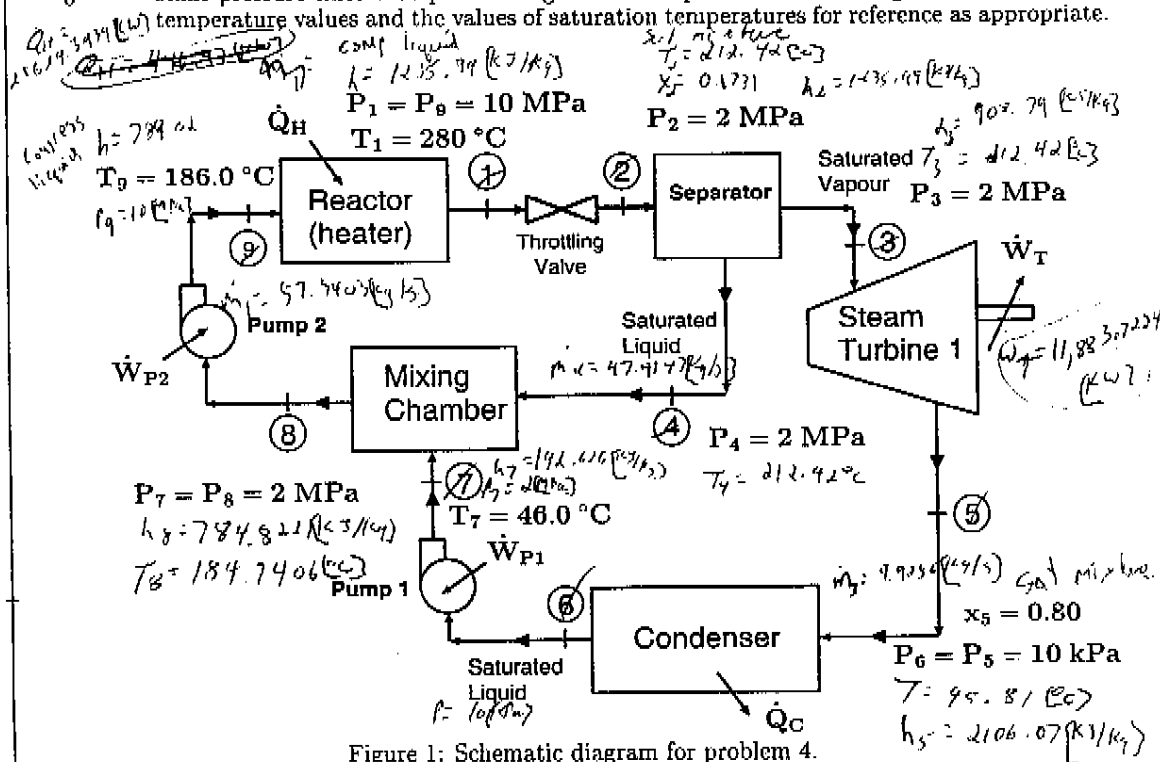

Figure 1: Schematic diagram for problem 4.
4. Figure 1 shows a schematic of a nuclear power plant that uses water as the working fluid. The high temperature compressed liquid coming out of the reactor (heater) is throttled into the separator. The function of the separator is to take the mixture at state 2 conditions and split it into two streams with mass flow rates \dot{m}_3 of saturated vapour and \dot{m}_4 of saturated liquid at a pressure of 2 [MPa]. The split in mass flow rates is controlled by the quality at state 2 (i.e. $\dot{m}_3/\dot{m}_2 = x_2$). The heat transfer rate from the condenser, \dot{Q}_C , is 19,000 [kW]. The known property information for states in the system is given in the figure. Neglect changes in kinetic and potential energies in all the devices. Assume that the throttling valve, the separator, the turbine, the mixing chamber, and both pumps are all well insulated (i.e. adiabatic).